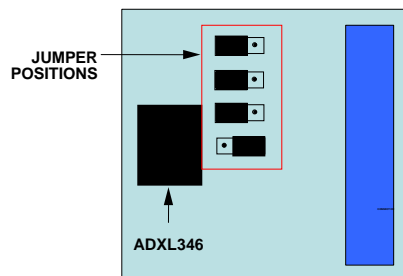

Figure 14. Correct Jumper Positions for the ADXL346 Satellite
1. Verify that the jumpers located in the center of the ADXL346 satellite are configured as shown in Figure 14.